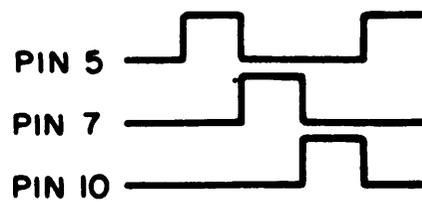

Figure 4-2. Pins 5, 7 and 10 Waveforms
b. Pins 5, 7 and 10 are outputs of the three-phase clock and should show the following waveforms (refer to fig. 4-2).